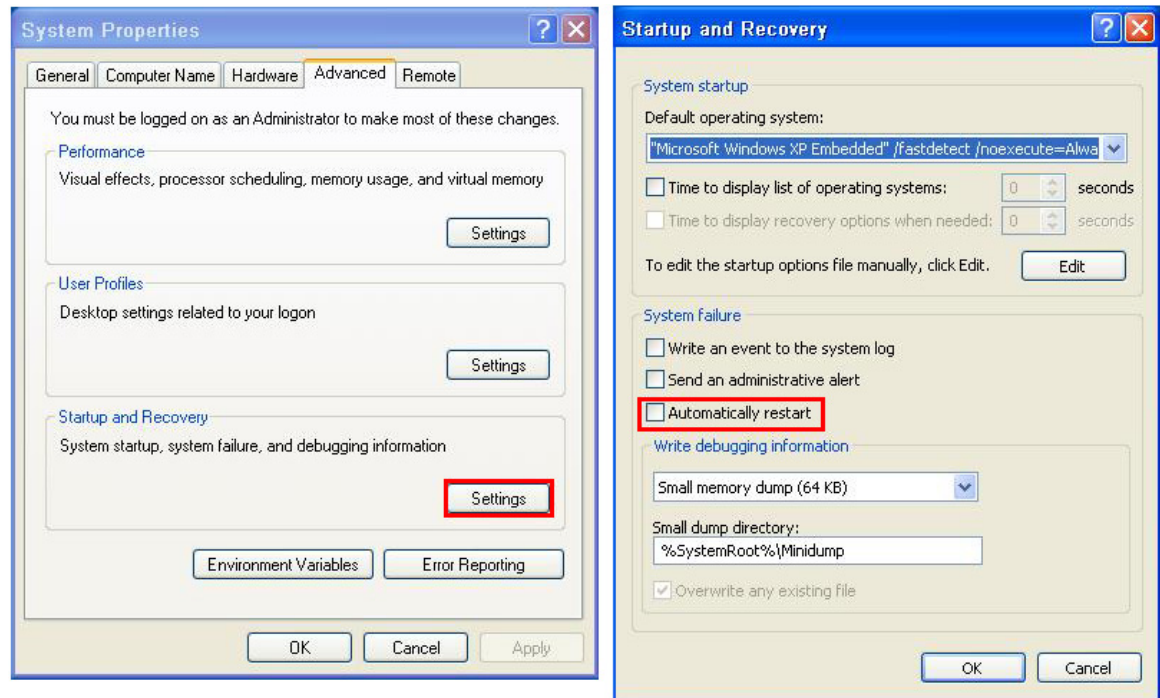

Figure A-43: Disable Automatically Restart
Step 1: **Disable the automatically restart function before creating the factory default image.** Go to: My Computer → Properties → Advanced. Click the Settings button of Startup and Recovery. Deselect “Automatically restart”. Click OK to save the settings and exit. (See **Figure A-43**).